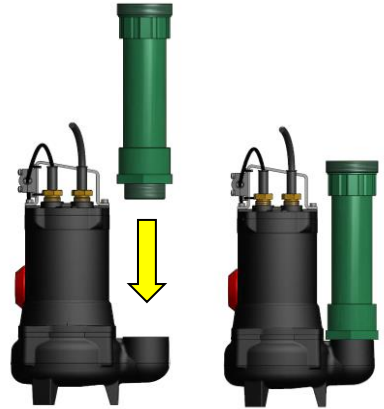

Fig. 7
- 2) Positioning the delivery pipe on the VS.40V.04.2.110L pump, screwing the 2" threaded hex (E) on the pump delivery port. - see fig. 7